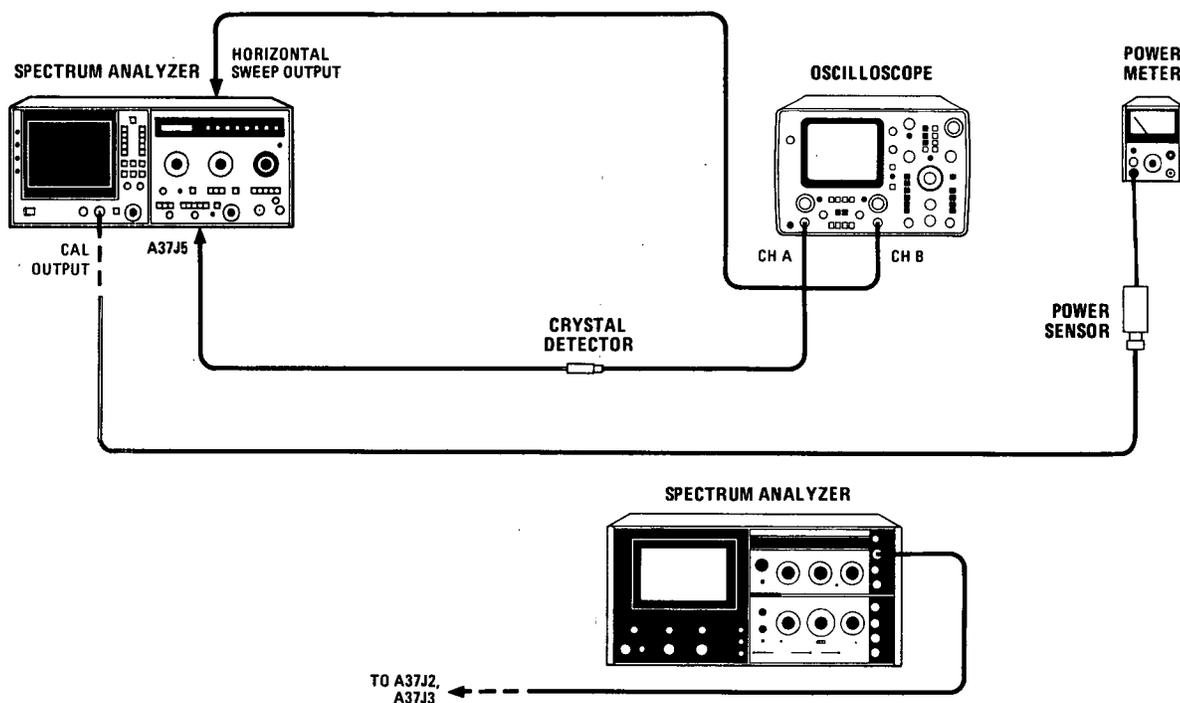

Figure 5-35. Third Converter Adjustment Test Setup
2. Reconnect power cord, set LINE switch ON, and connect equipment as shown in Figure 5-35.